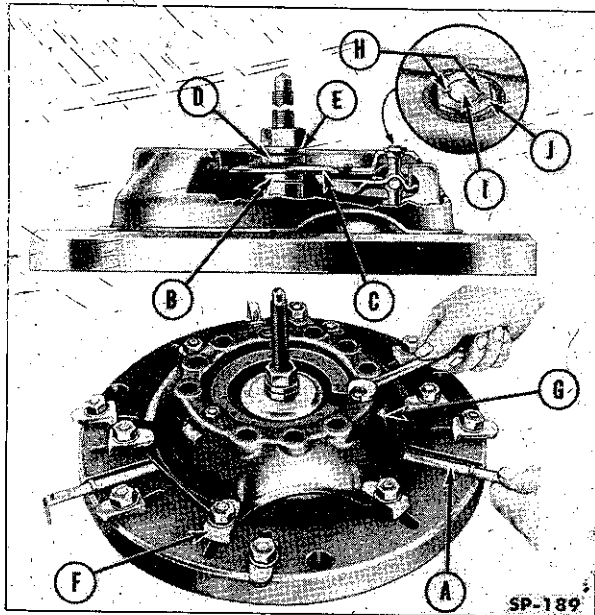

FIG. 201—ADJUSTING PRESSURE PLATE LEVERS
- d. Position the pressure plate and cover on a fixture so that the pressure plate levers are directly over the feeler blades of the fixture (A, Fig. 201). Install the three-legged spider, washer, and nut on the fixture centering screw and tighten down until the cover is seated on the fixture base and the three eyebolts protrude above the cover.
g. Install the thickness spacer (B, Fig. 201), compression plate (C), self-aligning washer (D), plain washer (E), and the nut on the centering screw of the fixture.
i. Adjust the pressure plate levers (G, Fig. 201) by turning the eyebolt nuts down until each of the three feelers (A) has the same slight drag or "feel" when pushed in or out. When the proper adjustment is made, stake the bolt and nut (H, I, and J, Fig. 201) and remove the clutch from the fixture. The clutch assembly is now ready for installation.